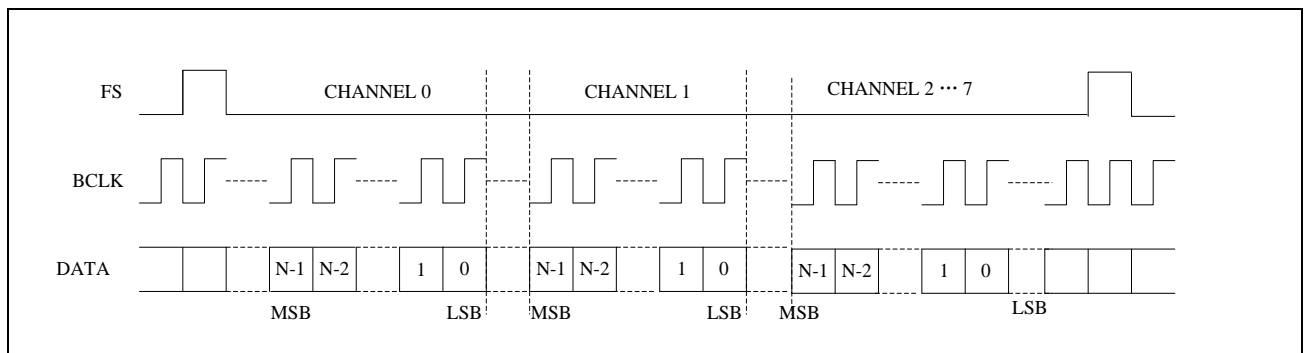

Figure 27 PCM Time Slot Audio Data
Normally, the DAC data is clocked immediately after the Frame Sync (FS); however, in PCM Time Slot Mode, the audio data can be delayed by setting **LEFT\_TIME\_SLOT TSLOT\_L0 REG0XF[9:0]** and **RIGHT\_TIME\_SLOT TSLOT\_R0 REG0X10[9:0]** for the left and right channels, respectively. **I2S\_PCM\_CTRL2 PCM\_TS\_EN0 REG0XE[10]** needs to be set to 1. These delays can be seen before the MSB in **Figure 27**.